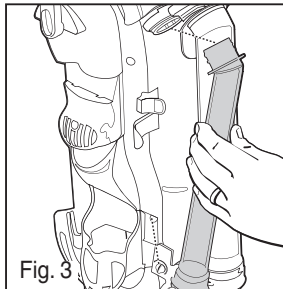

Fig. 3
- 3) Pull small tube down and away from vacuum body (Fig. 3).